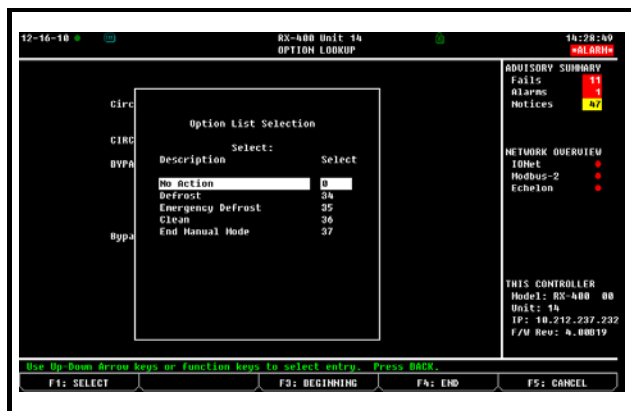

Figure 12-15 - Option List Selection Screen
- Press **F4** LOOK UP. The Option List Selection screen (see Figure 12-15) will give you five choices of defrost modes.